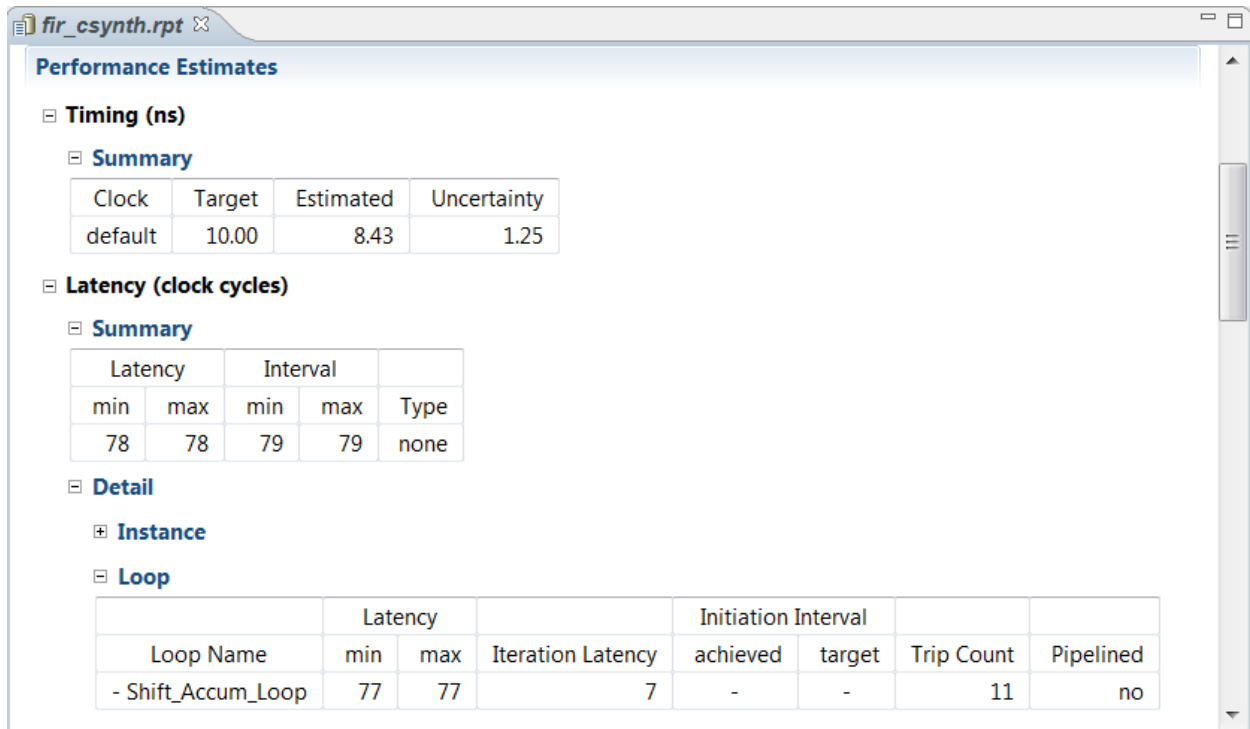

Figure 12: Performance Estimates
2. Click **Performance Estimate** in the Outline tab (**Figure 12**).
In the Performance Estimates pane, shown in Figure 12, you can see that the clock period is set to 10 ns. Vivado HLS targets a clock period of Clock Target minus Clock Uncertainty (10.00-1.25 = 8.75ns in this example).